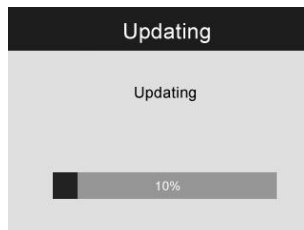

Fig. 26
- 4) Press **Power** button to turn on the tool and then press **UP** button until the update screen pop up, select YES to upgrade the tool (*Fig. 26*).